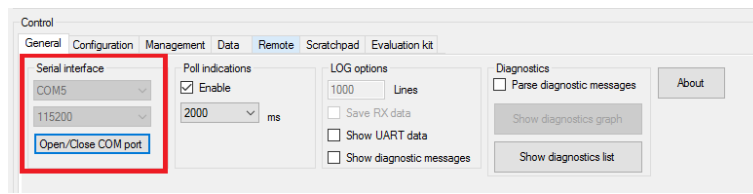

Figure 8: Open COM port
- i. Select the right COM port of the Thetis-I EV-Board and press the "Open/Close COM port" button (see figure 8).